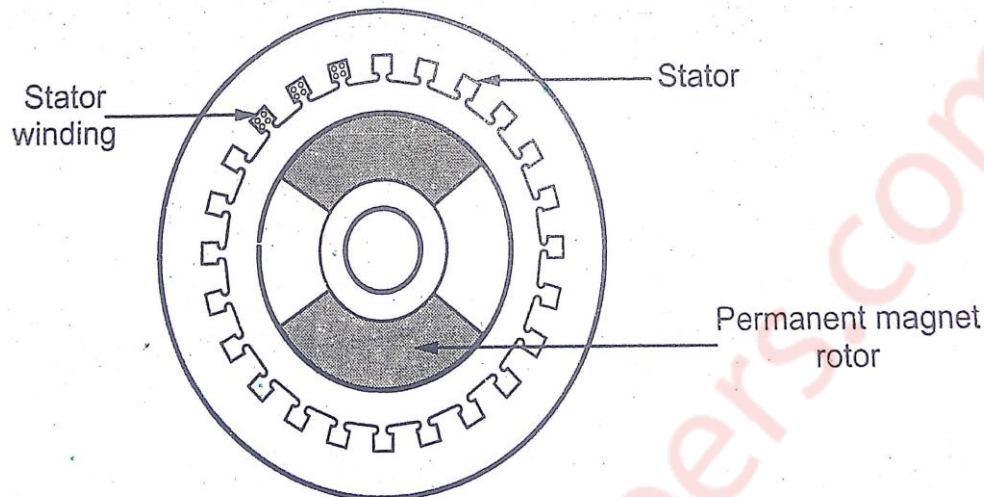

Fig. 9.22.1 Cross-section of brushless d.c. motor
4) The Fig. 9.22.1 shows the cross-sectional view of the winding of a permanent magnet brushless d.c. motor.